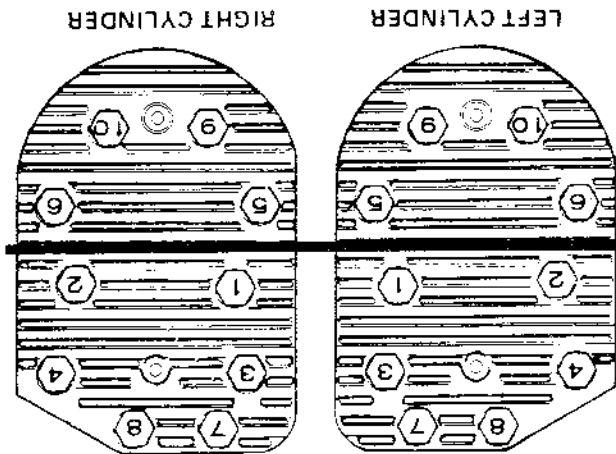

FIGURE 47. CYLINDER HEADS
2. Remove the nuts and compression washers (do not remove the flatwashers) from the top six studs on each cylinder head (see Figure 47). Each stud will have two compression washers and one flatwasher arranged in the sequence shown in Figure 48.